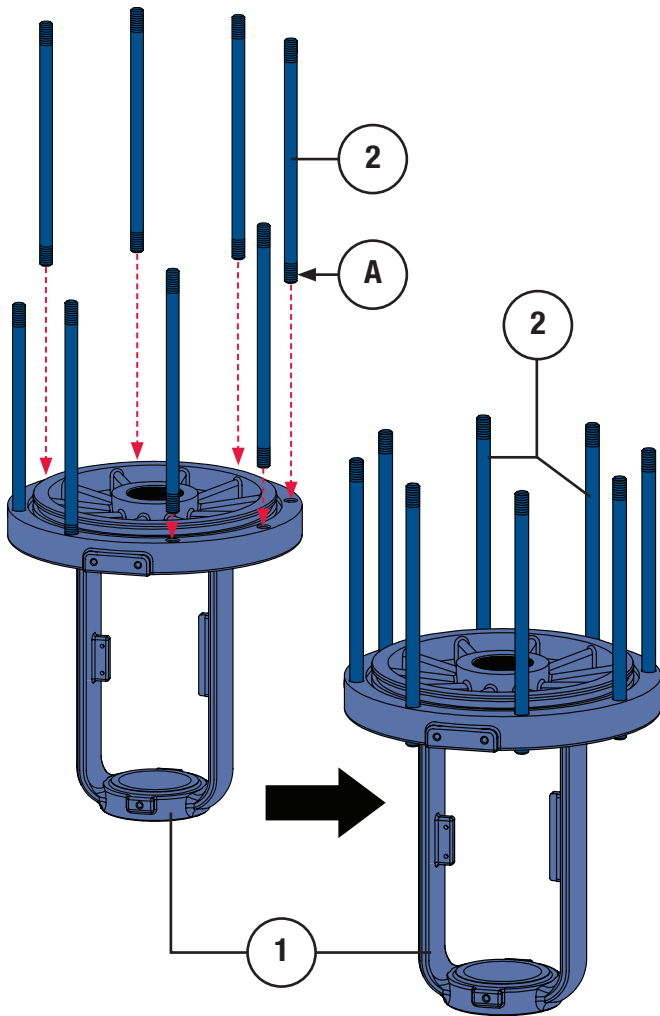

Figure 19 Cylinder Stud Installation
- 2 Thread the stud (Key 2) completely into the yoke (Key 1) as shown in Figure 19.